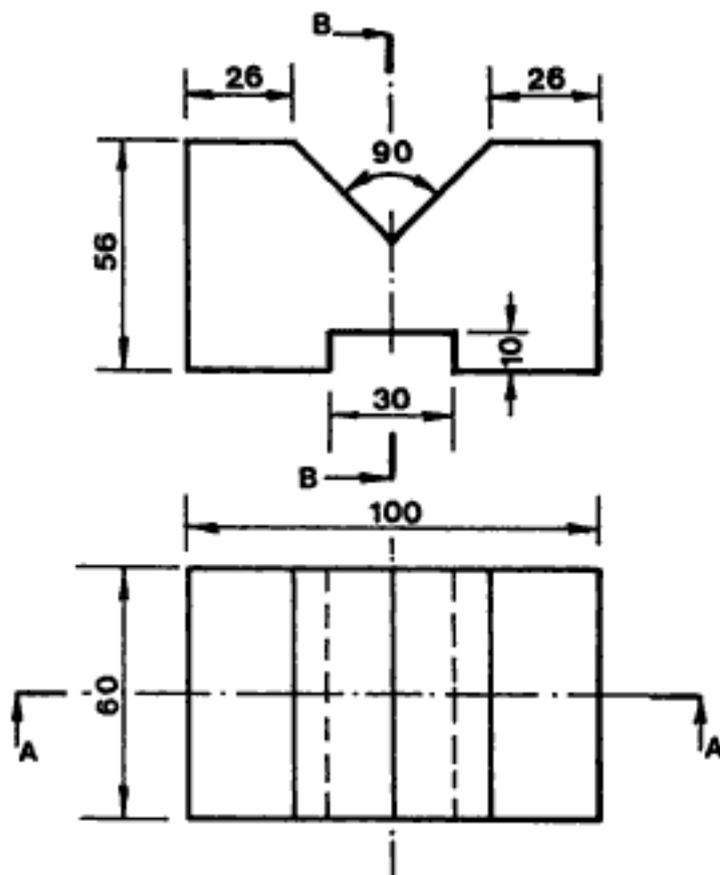

Fig 7.18
- 2 Fig 7.18 shows two views in first angle orthographic projection of a V-block. Draw, in first angle orthographic projection and full scale, the following three views of the V-block: